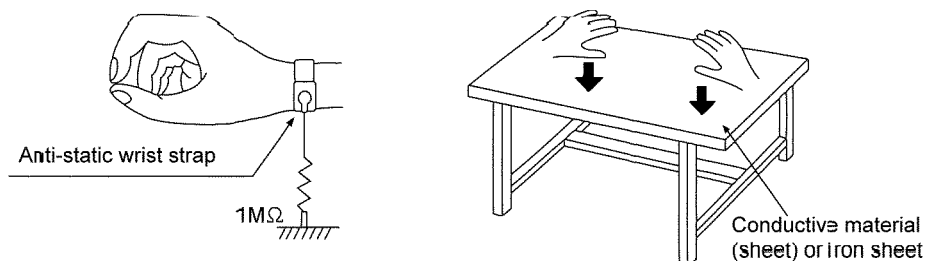

Figure 2
1. Use the anti-static wrist strap to discharge the static electricity form your body (Figure 2).